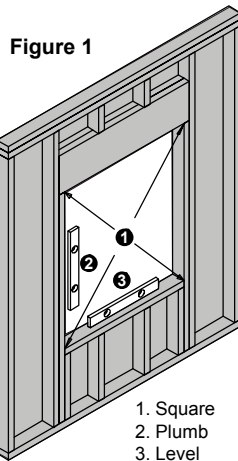

Figure 1
**MEASURING FOR SQUARE:** Take measurements from bottom left corner to top right corner and bottom right corner to top left corner and compare. If measurements are equal the R.O. is square. If measurements are not equal, R.O. is out of square and it is then the responsibility of the installer to remedy this problem (fig. 1).
**CHECKING FOR PLUMB:** Place a level on both sides of the R.O. making sure the vertical measurement of each side is true. If R.O. is not plumb, it is then the responsibility of the installer to remedy this problem (fig. 1).
**CHECKING LEVEL:** Place a level on the sill of the R.O. making sure the horizontal measurement on the sill is level. If opening is not level, the use of shims may be used to level the sill (fig. 1).